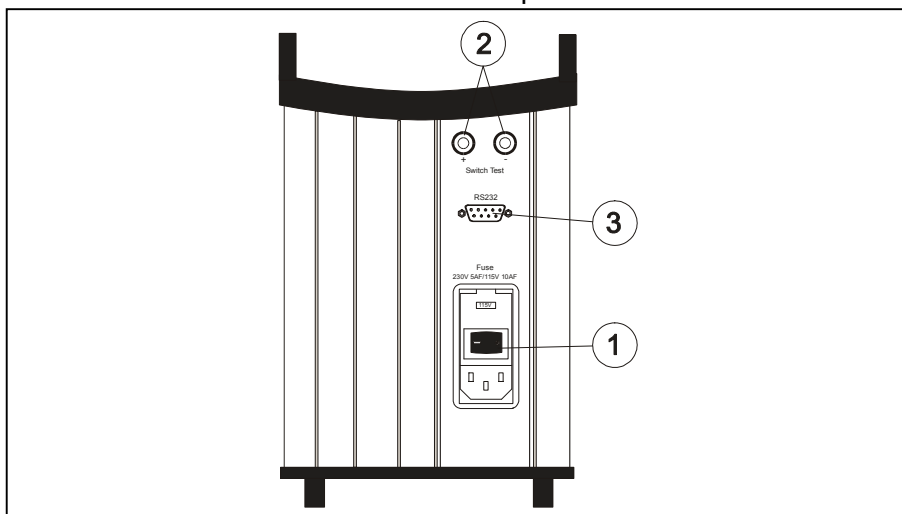

Fig. 6
①	Power control switch with connection for cable and on/off switch. Also contains the main fuse. See section 7.0 for information on how to change the fuses.
②	Connection for thermostat test.
③	Connection for RS232 cable.
Switch the calibrator on using the power control switch (pos. 1 in Fig. 6).